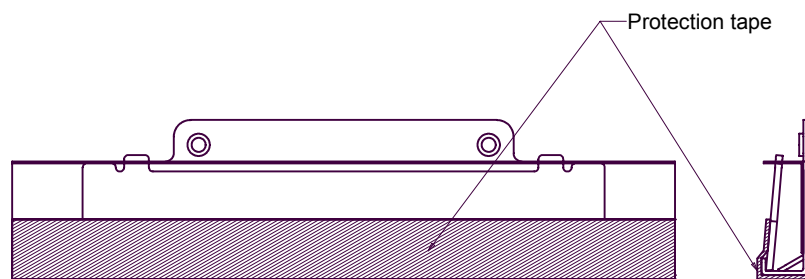

Figure 9-2 Fixing Blade Unit
- (1) Remove the protection tape that is attached to the fixing blade unit as shown in **Figure 9-2**.